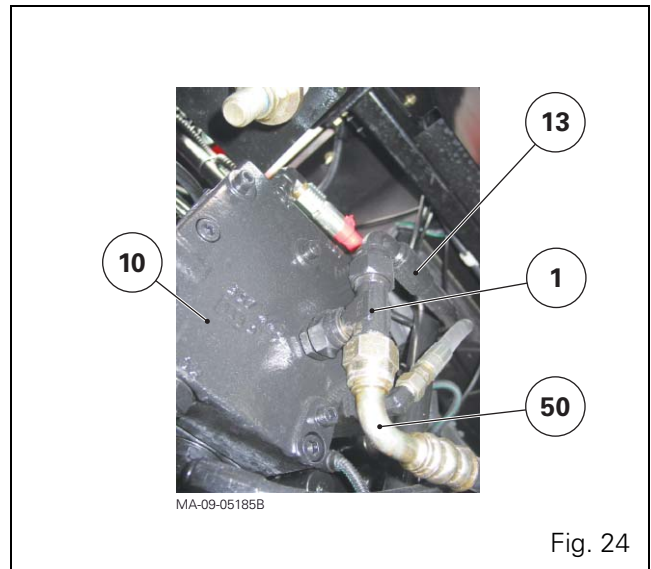
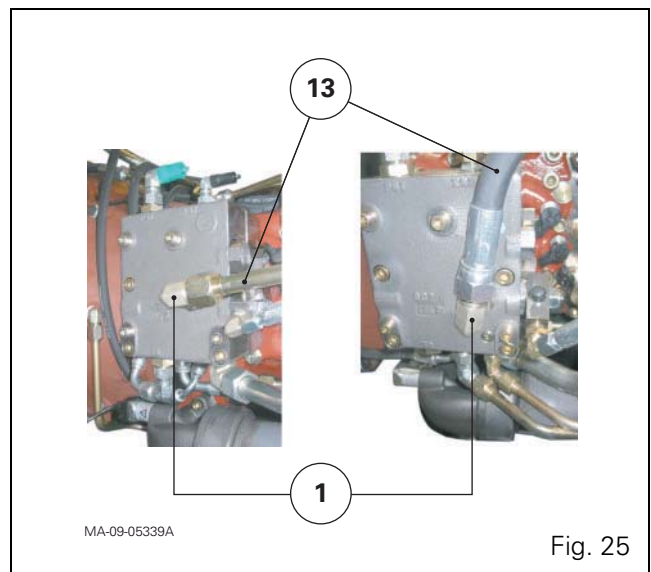

Fig. 24
Fig. 25
29. For tractors fitted with a GPA30 rear axle and a trailer brake mechanism (Fig. 24):
- Tighten the T connector (1) in the vertical position.
- Tighten the hose (13).
- Temporarily tighten the hose (50) while awaiting the filling operation.
- 30.** For tractors fitted with a GPA20 or GPA40 rear axle and a trailer brake mechanism (Fig. 25):
- Tighten the elbow union (1).
- Tighten the pipe or hose (13) (depending on version).
- 34.** For tractors fitted with a GPA30 rear axle and a trailer brake mechanism (Fig. 24):
- Charge the hose (50) for the priority block (10).
- Definitively tighten the hose (50).